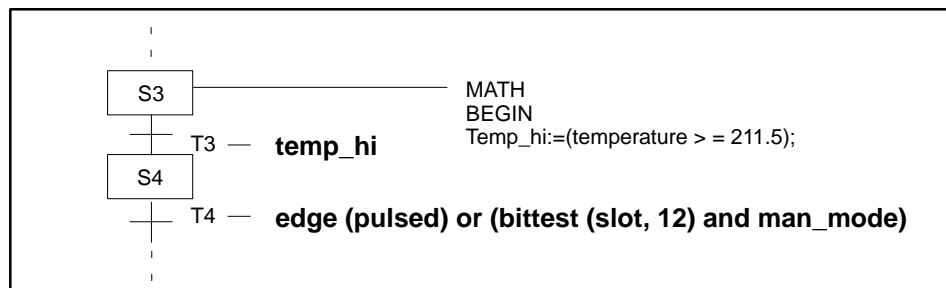

Figure 12-4 Using Transitions
- Real values in a transition slow down program execution; therefore, if you must use relationships with real values, place these in a math section of the preceding SFC step as shown in Figure 12-4.